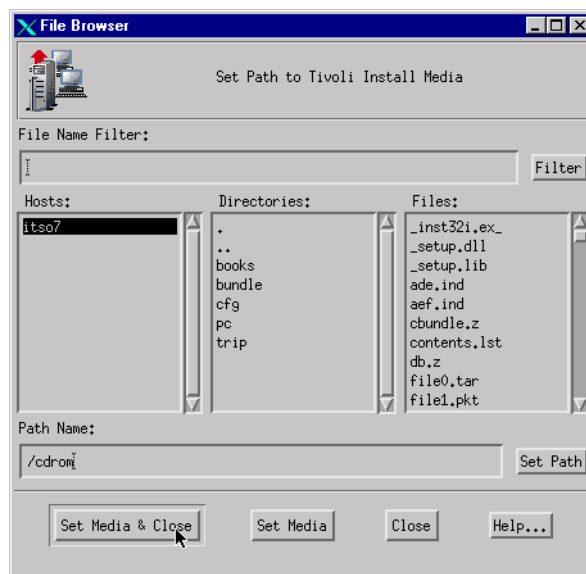

Figure 43. File Browser
12. Next, you have to select the media from which to install. Click on your TMR Server and the **/cdrom** directory as shown in Figure 43.